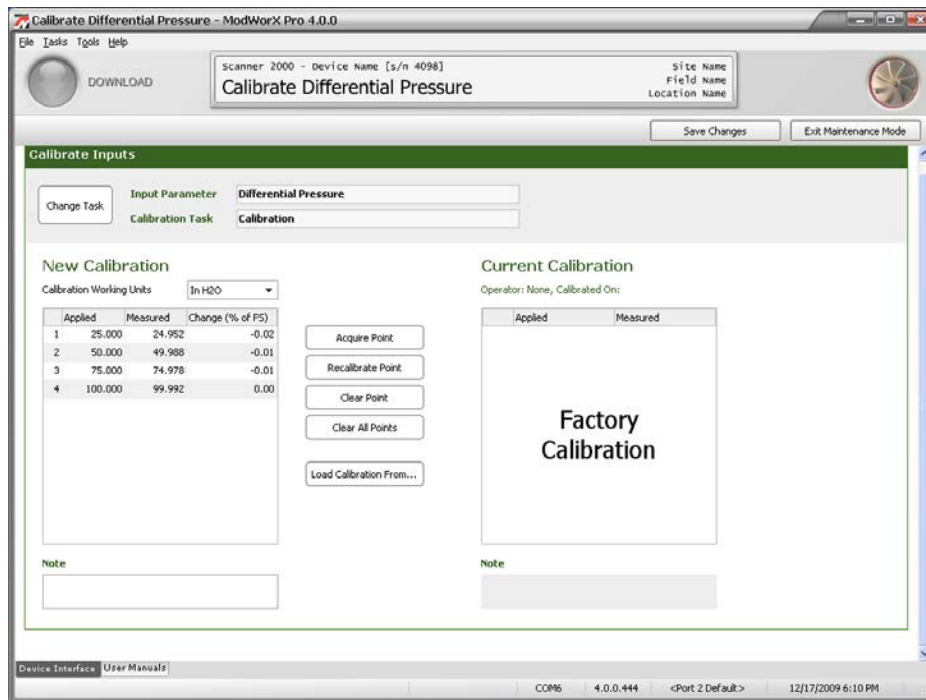

Figure 8.8
- When a measured value is indicated, click **OK** to save the calibration point and return to the Calibrate Differential Pressure screen (Figure 8.8, page 108). The New Calibration table is updated with the applied pressure, the measured value, and a percentage of change. The percentage of change is expressed as a percentage of full scale, and is a measure of how the calculated value will change based on the new calibration with respect to the previous calibration.